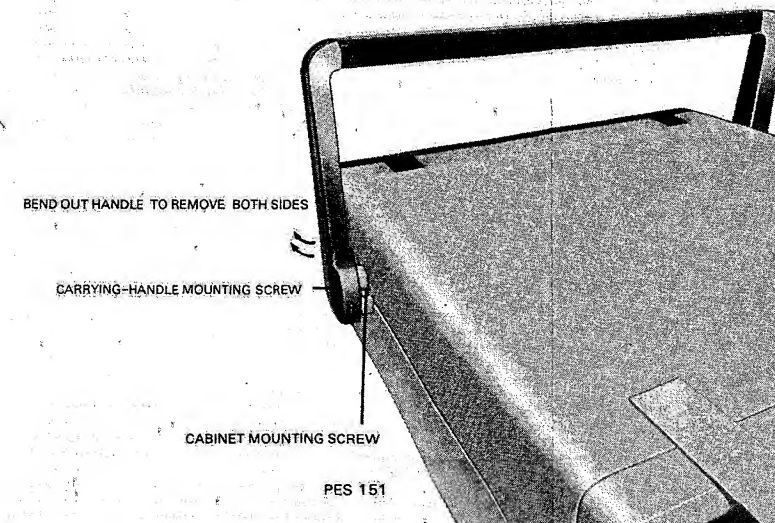

Fig. 3.1 Removing the top Cover
- Remove the two carrying-handle mounting screws (Fig. 3.1.).
- Bend the handle outwards and remove it (Fig. 3.1.).
- Remove the two cabinet mounting-screws (Fig. 3.1.).